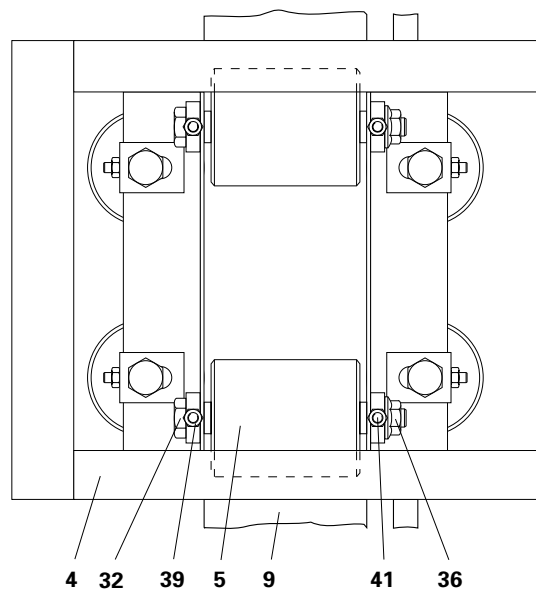

Figure 10
1. Loosen the nut (**36** - Fig. 10) slightly.
2. Loosen the locking nut (**39** - Fig. 10).
3. Turn both locking screws (**41** - Fig. 10) equally in a clock-wise direction with corresponding Allen keys.
4. The roller (**5** - Fig. 10) moves against the column (**9** - Fig. 10) until it rests flat on the column.
5. Tighten both locking nuts (**39** - Fig. 10) firmly on each side of the roller (**5** - Fig. 10).
6. Firmly tighten the nut (**36** - Fig. 10) at the side of the roller (**5** - Fig. 10), use a second spanner to hold the roller spindle bolt (**32** - Fig. 10).
7. Adjust the remaining rollers (**5** - Fig. 10) according to the Points 1-6 above.